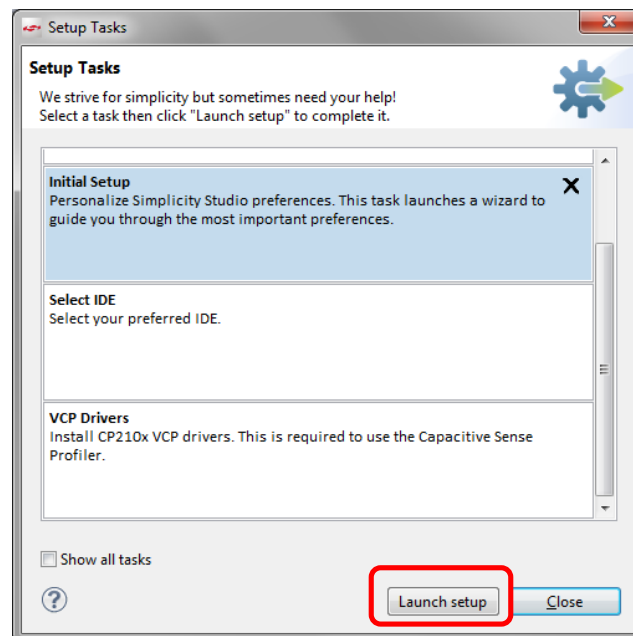

Figure 5. Setup Tasks
5. Once restart is complete, a menu of setup tasks is displayed (Figure 5). Select **Initial Setup** and then click **[Launch setup]**.